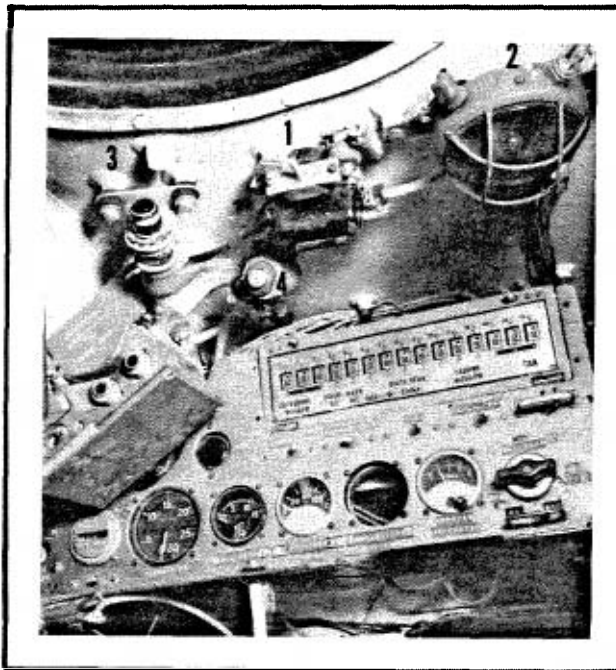

FIG. 2-18. COMPARTMENT LIGHTS
g. Dome Lights (Figs. 2-18/2-19) There are several dome lights available to the driver to illuminate his compartment. The main dome light near the instrument panel will generally illuminate the driver's compartment even if the master is off. There are two lights that illuminate the driver's instrument panel and speedometer. They work with a 3-position toggle switch with the center position for all lights off, right position for dim, and left position for bright.
j. Turret Warning Lights (Figs. 2-18/2-19) There are two warning lights in the driver's compartment that illuminate to warn the driver when the gun tube is over or beyond either fender. The right warning light illuminates when the gun tube extends beyond the right fender; the left warning light illuminates when the gun tube is beyond the left fender.